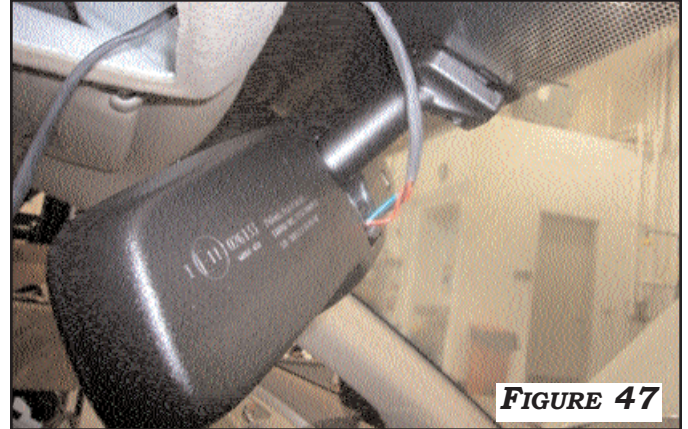

FIGURE 47
1. MOUNT REARSIGHT MIRROR ON EXISTING WINDSHIELD LUG AND TIGHTEN SCREW. **FIGURE 47**